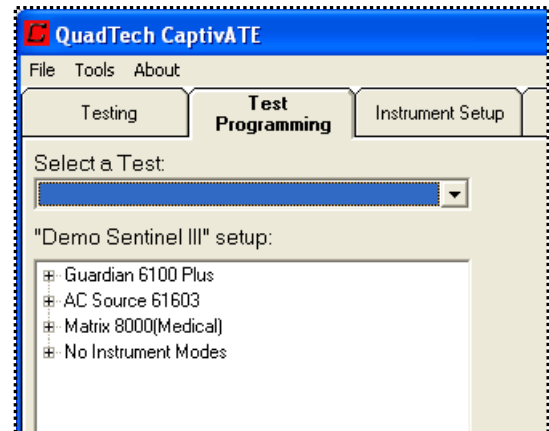

Figure 58 Test Programming: Included Instruments
1. Start building a test sequence by clicking the AC source, and expand the command tree by clicking the “+” next to the respective instrument as shown in Figure 58.